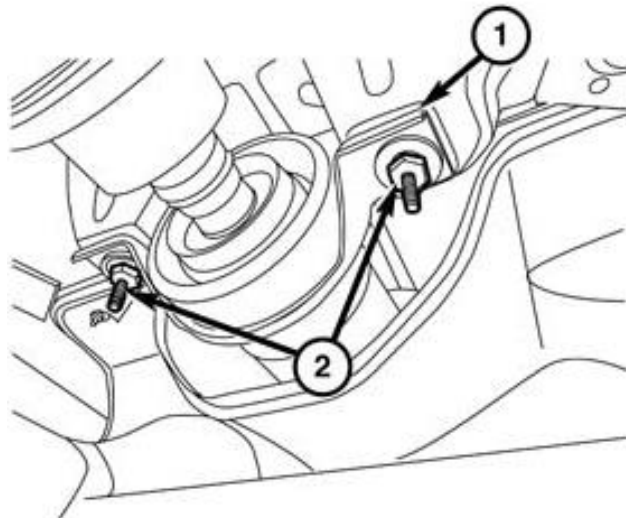

Figure 15 – Center Support Bearing Bracket
- 33. Remove the center support bearing bracket (1) (Figure 15).